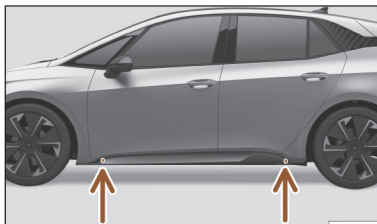

Fig. 196 Jack position points.
- Look on the crossbar for the mark of the jack support point (sunken area) closest to the wheel to be changed >>> **Fig. 196**.